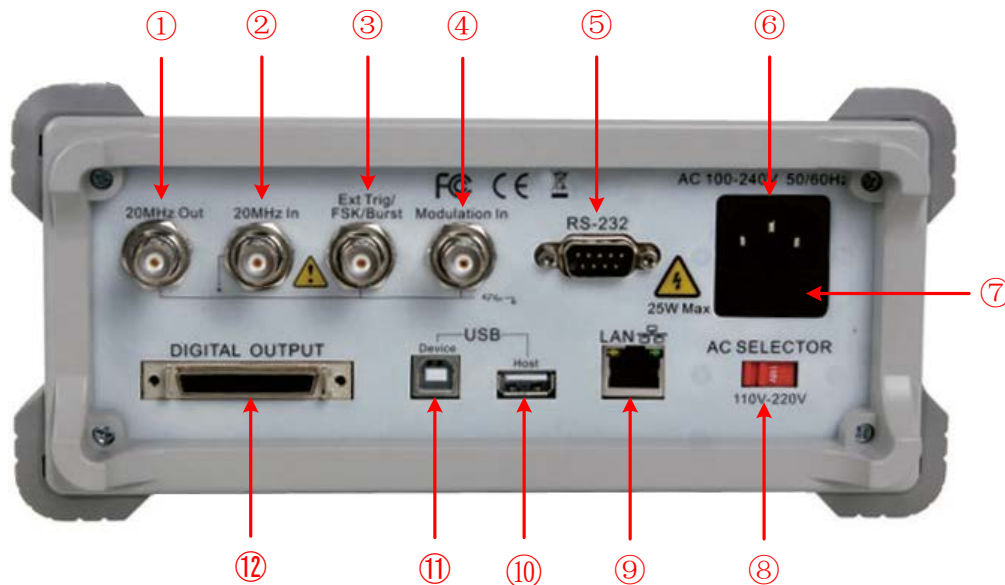

Figure 4-2 Rear panel overview
This series adopt 110V/220V AC power source. Users should regulate the voltage scale of the **Power Switch** according to the standards in their own country (see *Figure 4-2*) at the rear panel and use an appropriate fuse.
- (1) Turn off the power button at the front panel and remove the power cord.
- (2) Check if the fuse installed before leaving factory (250 V, F2AL) can match with the selected voltage scale; if not, pry the cover open using a straight screwdriver (see ⑦ in *Figure 4-2*), change the fuse.
- (3) Regulate the **Power Switch** to the desired voltage scale.